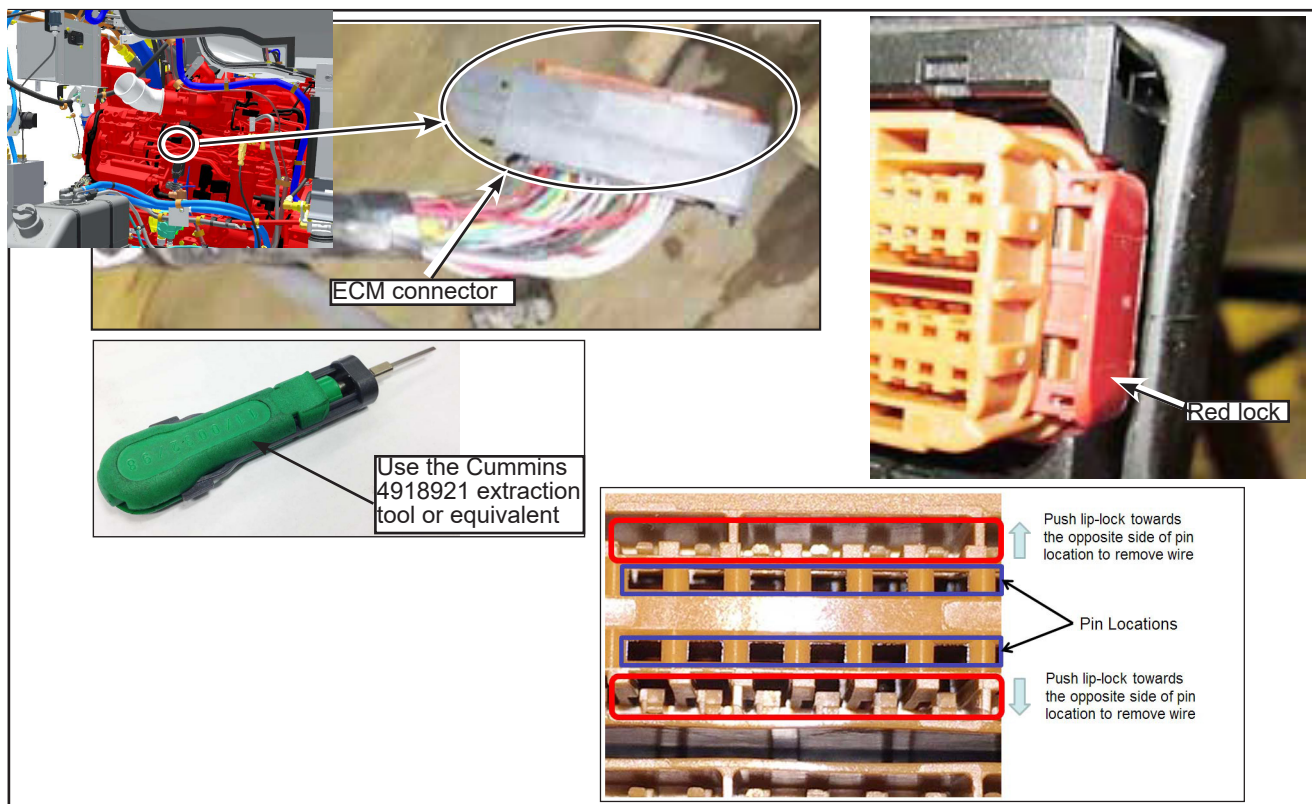

Figure 4 - Extract the Wires From the ECM Connector
- 1.4. Raise the bus, open the ECM connector back shell, remove the red lock and extract the terminals and wires from the ECM connector for APS 1 and APS 2 using the Cummins 4918921 extraction tool. Avoid pulling on the wires before pushing the lip locks with the Cummins extraction tool. Insert the Cummins extraction tool avoiding a rotation movement. Pull on the wire once the wedge of the extraction tool has unlocked the pin (see Figure 4).